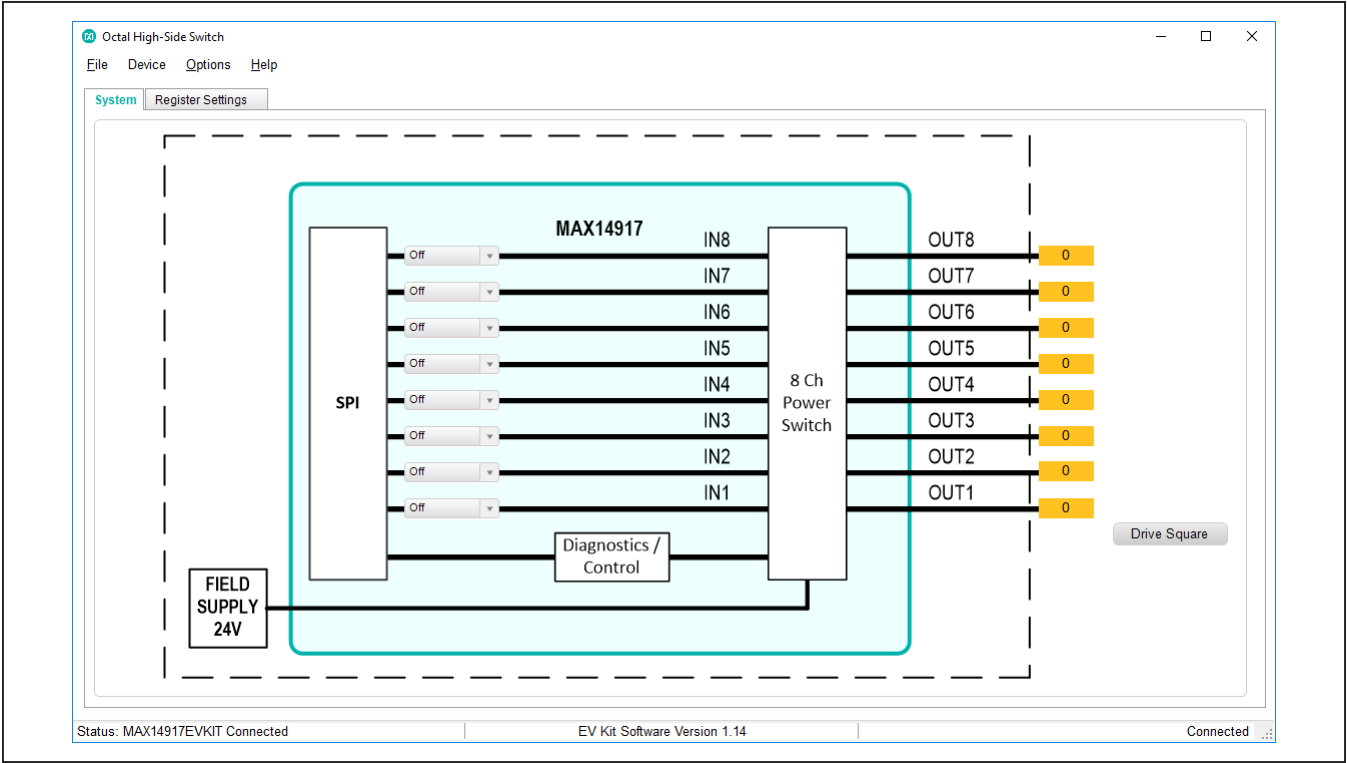

Figure 1. MAX14917 EV Kit GUI System Tab
- 6) Start the EV kit software by opening its icon in the **Start | Programs** menu. The EV kit software appears as shown in Figure 1. Verify that the lower-right status bar indicates the EV kit hardware is **Connected**.